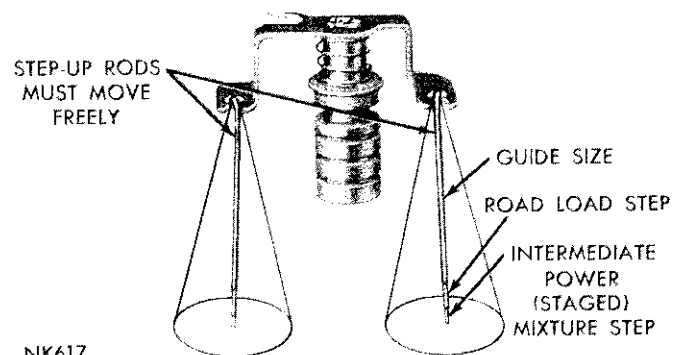

Fig. 9—Step-Up Rods Freeplay
(7) Before installing step-up piston, be sure step-up rods are able to move freely, each side of the vertical position, (Fig. 9). (The step-up rods must be straight, smooth and free to move forward and backward from vertical.)